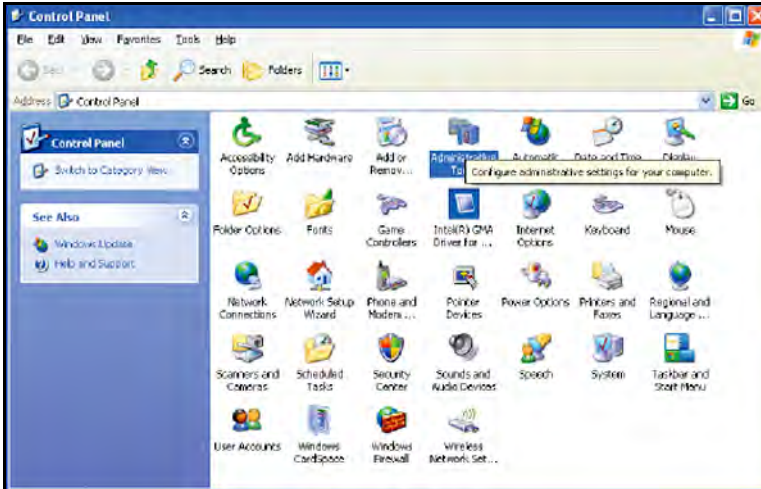

Figure 113: Control Panel (Administrative Tools Icon)
1. To set up a user's access rights, return to the Windows *Control Panel* and click on Administrative Tools (see *Figure 113* below).